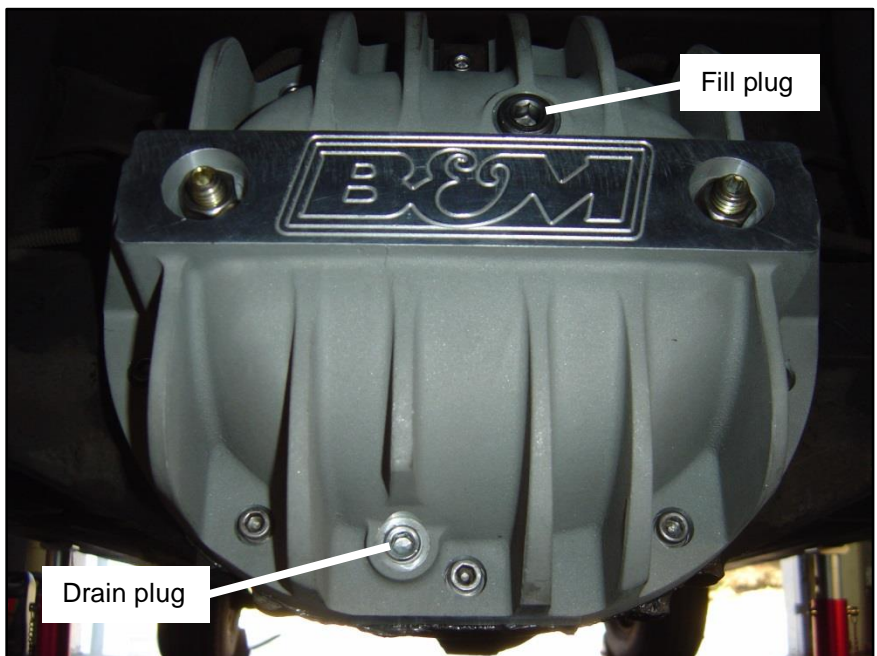

Figure 5
**STEP 16.** Install the supplied magnetic 1/4" NPTF drain plug on the **B&M Cast Aluminum Rear End Cover** and tighten (See Figure 5).
**Cover fill plug hole (See Figure 5).** Add gear oil until oil runs out of the axle housing fill hole.